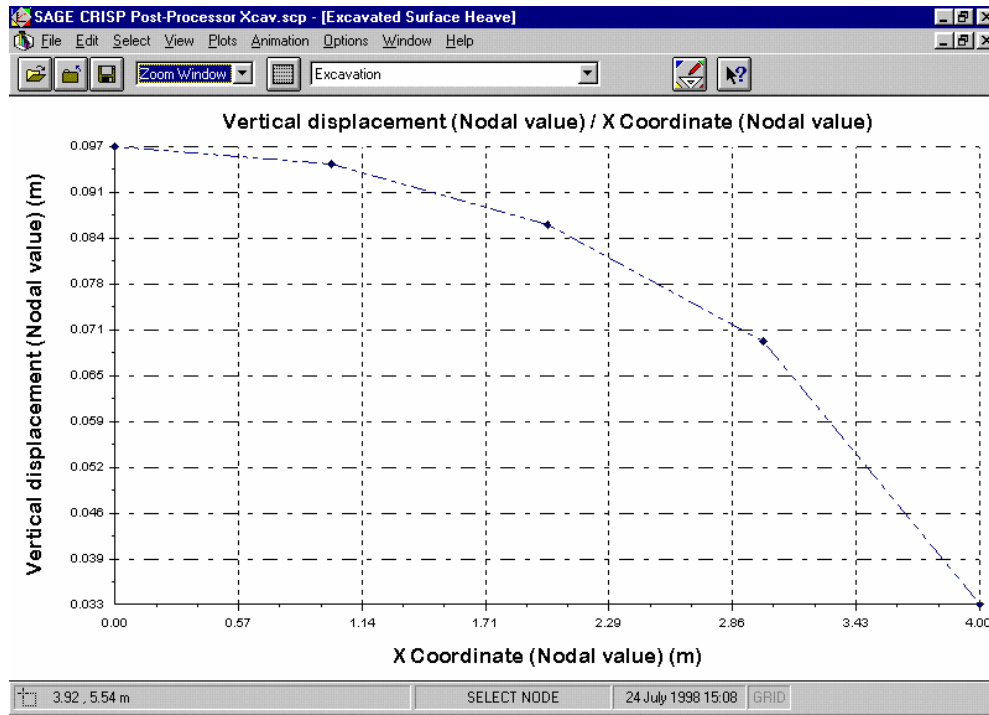

Figure 5-25: Heave of basement surface after excavation
- Step 9** Click on **OK** to exit, once you have finished. You should see a graph similar to that displayed in Figure 5-25.